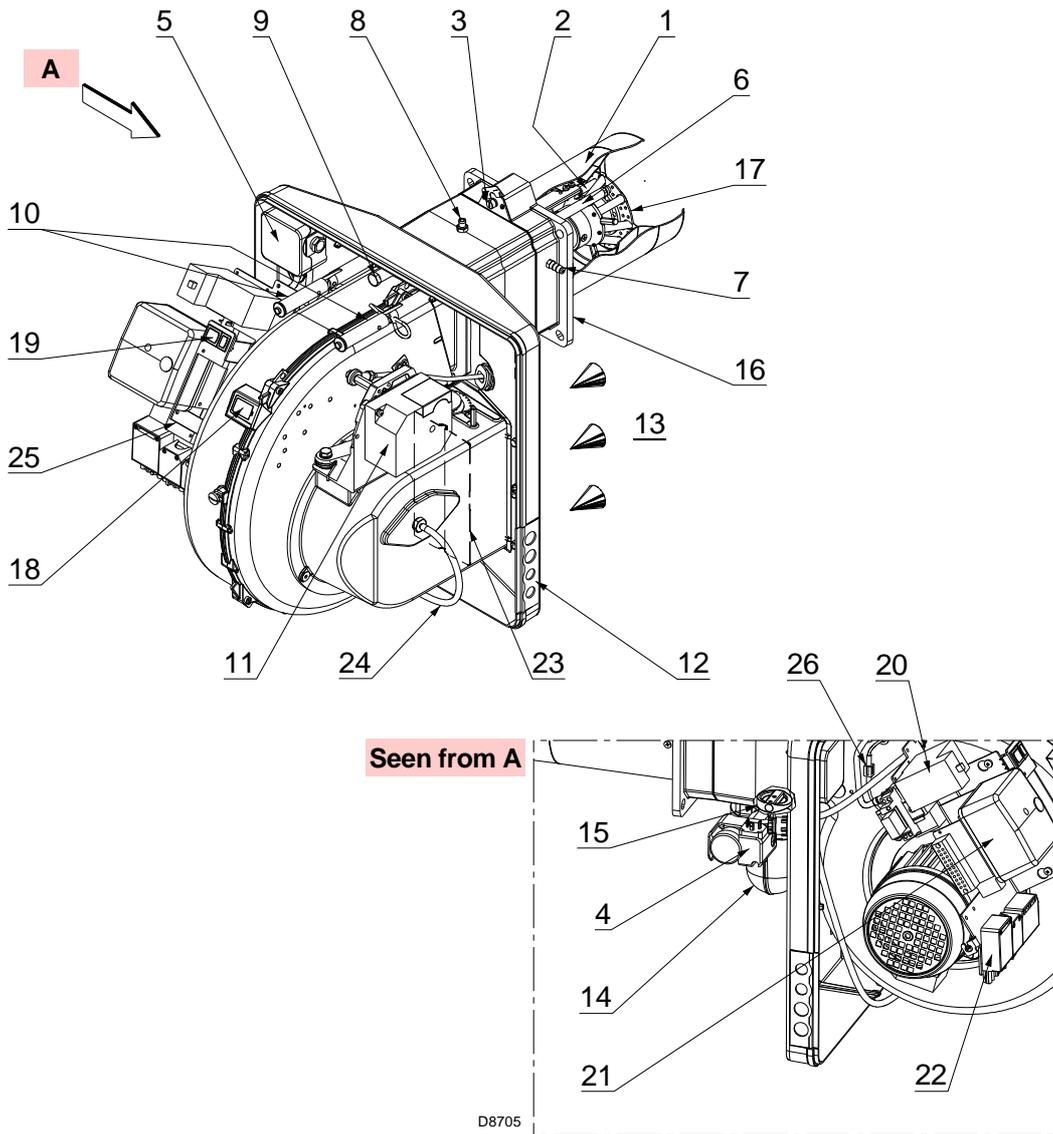

Fig. 5
(1) Reference conditions: Ambient temperature 20°C - Gas temperature 15°C - Barometric pressure 1013 mbar - Altitude 0 m above sea level.
(2) Gas pressure on the pipe coupling test point 8) (Fig. 5) with zero pressure in the combustion chamber and at maximum burner output.
(3) Sound pressure measured in manufacturer's combustion laboratory, with burner operating on test boiler and at maximum rated output. The sound power is measured with the "Free Field" method, as per EN 15036, and according to an "Accuracy: Category 3" measuring accuracy, as set out in EN ISO 3746.